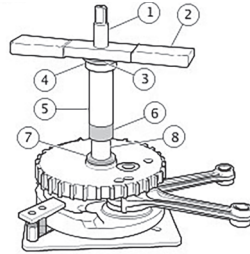
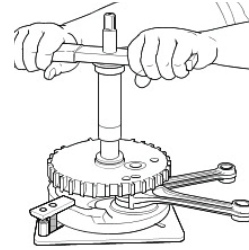

Figure 3. Inner Race Installation
Figure 4. Inner Race onto Sprocket Shaft Installation
- See Figure 3. Sparingly apply graphite lubricant to the threads of the pilot shaft (1) to prolong service life and verify smooth operation.
- Thread the pilot onto the sprocket shaft (8) until contact is made with the shoulder.
- Slide the sleeve (5) over the pilot until it contacts the bearing race (6).
- Slide the thrust bearing (4) and large flat washer (3) over the pilot until contact is made with the sleeve.
- Thread the handle (2) onto the pilot shaft.
4. See Figure 4. Rotate the handle of the tool in a clockwise direction until the bearing inner race bottoms against the thrust washer.